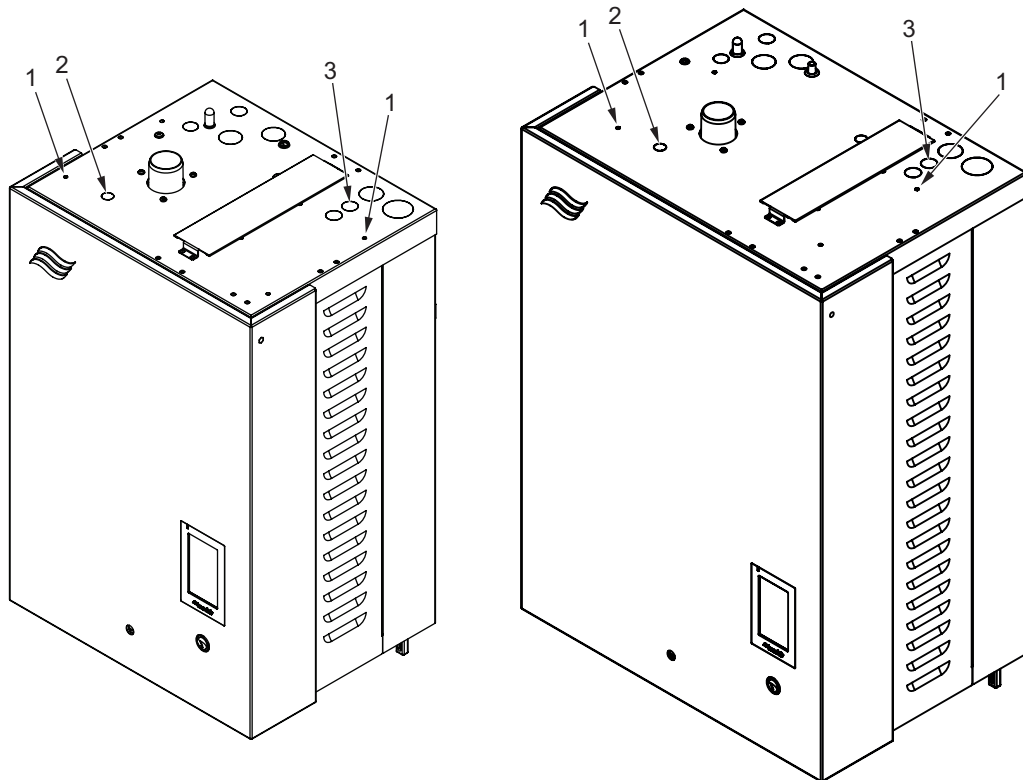

Figure 16: Knockout Holes in Top of Humidifier
1. **Punch Knockouts.** Punch the following knockouts in the top of the humidifier. Refer to Figure 16. Locations vary depending on the humidifier type.